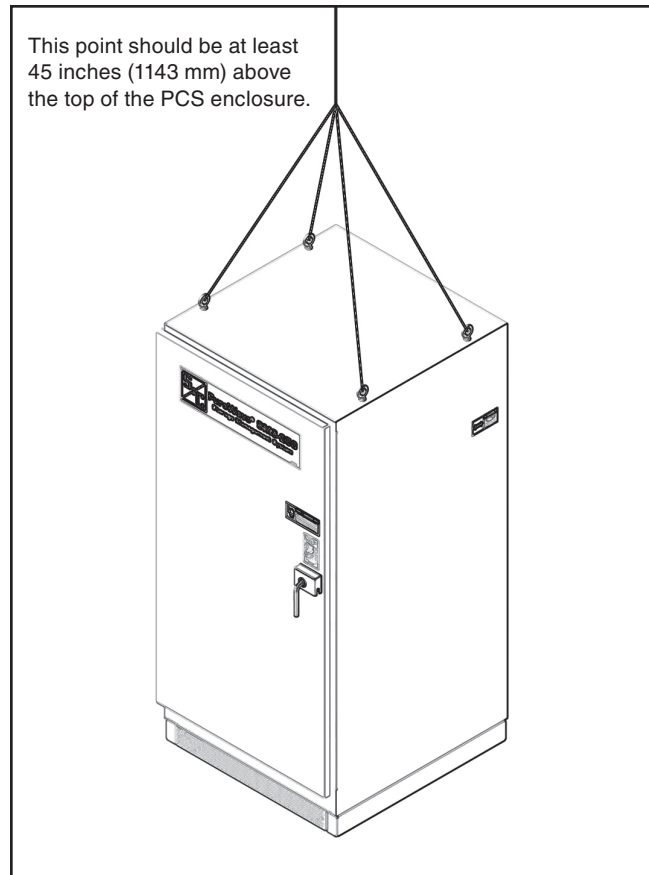

Figure 3. Proper lifting of the power conversion system enclosure.
- STEP 2.** Arrange the hoist slings so the lifting forces are distributed equally. See Figure 3 for an illustration of lifting the PCS enclosure. The equipment must be lifted with a crane or forklift.